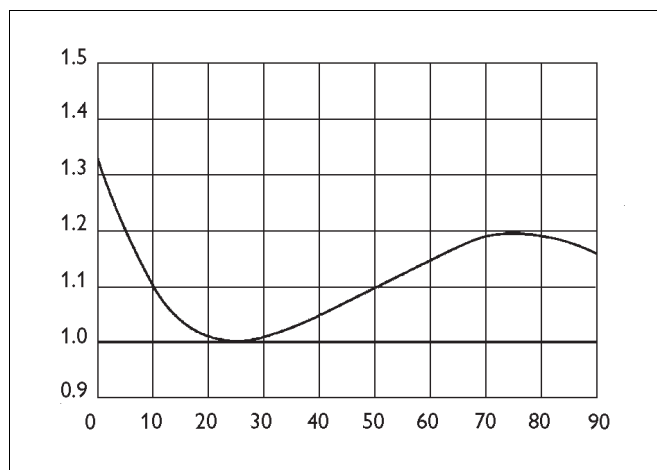

Fig. 5 Output torque as a function of turning angle
The actuator generates maximum torque when for example a ball or butterfly valve is closed, and the need for torque is greatest. Another peak is achieved at 60-80°, when the need for torque on a butterfly valve caused by the dynamic forces of for example pipe flows reaches a maximum. The relationship of the turning angle and the torque is shown in Fig. 5.
There are two adjustable stop screws in the actuator; these stop the movement of the secondary shaft in the extreme positions. The actuator generates a torque of approximately 1.3 times the nominal torque when the piston is at the upper end of the cylinder, see also Fig. 5. Some equipment require a greater torque at one extreme position than in the intermediate position, for example when a ball valve is being opened. The actuator must therefore be installed so that the screw in the end of the cylinder limits the movement of the shaft in which the greatest torque is required. Use non-hardening locking sealant, for example Loctite 225. The setting of the open position is adjusted with the limit screw (78) located within the box nut at the end of the hydraulic cylinder. Also see instructions for individual valves.